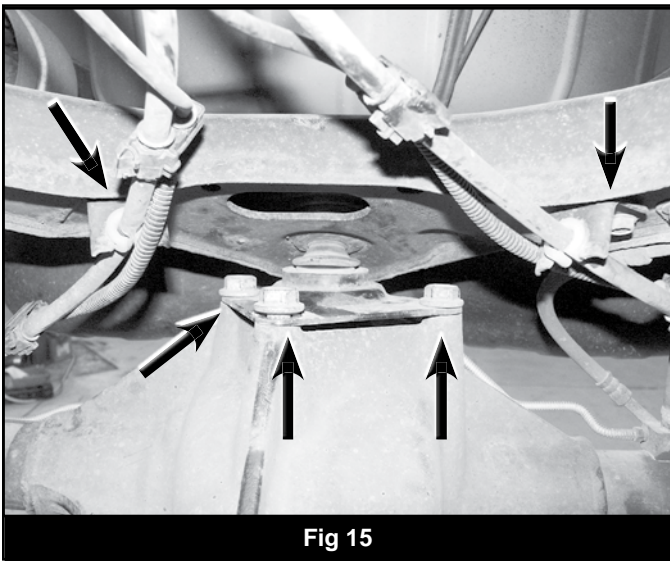

Fig 15
12. Remove the three bolts mounting the rear control arm to the top of the differential housing (Fig 15).